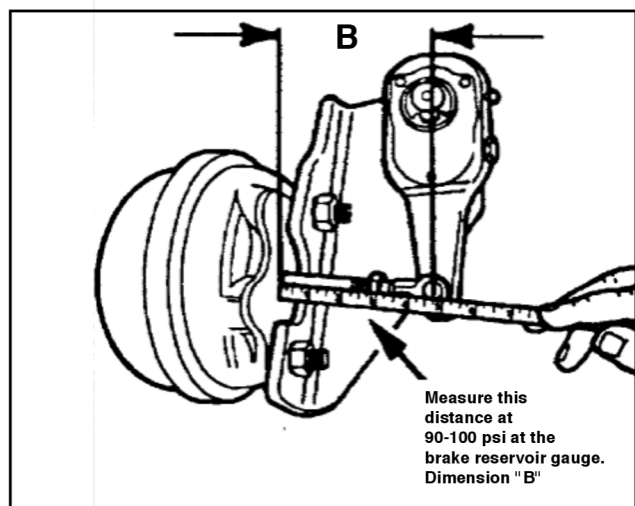

Fig. 4
3. Measure from the brake chamber face to the center of the clevis pin (see Fig. 4).